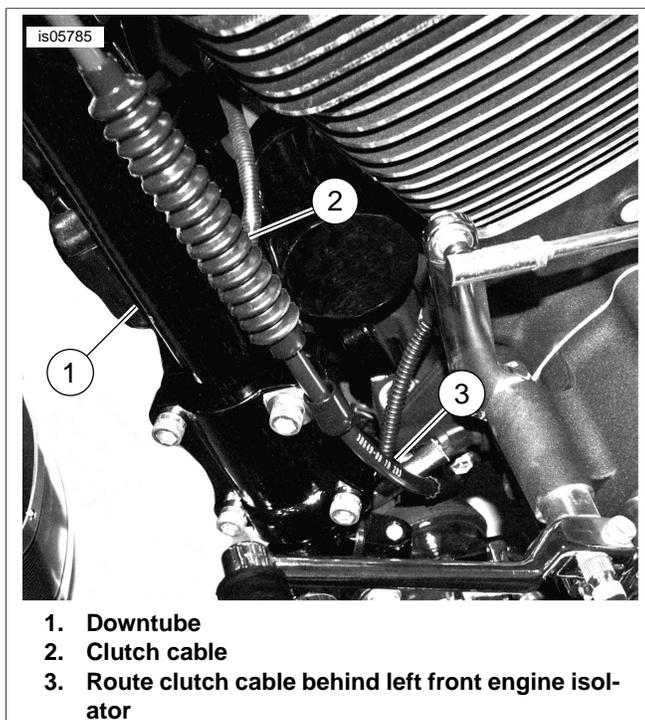
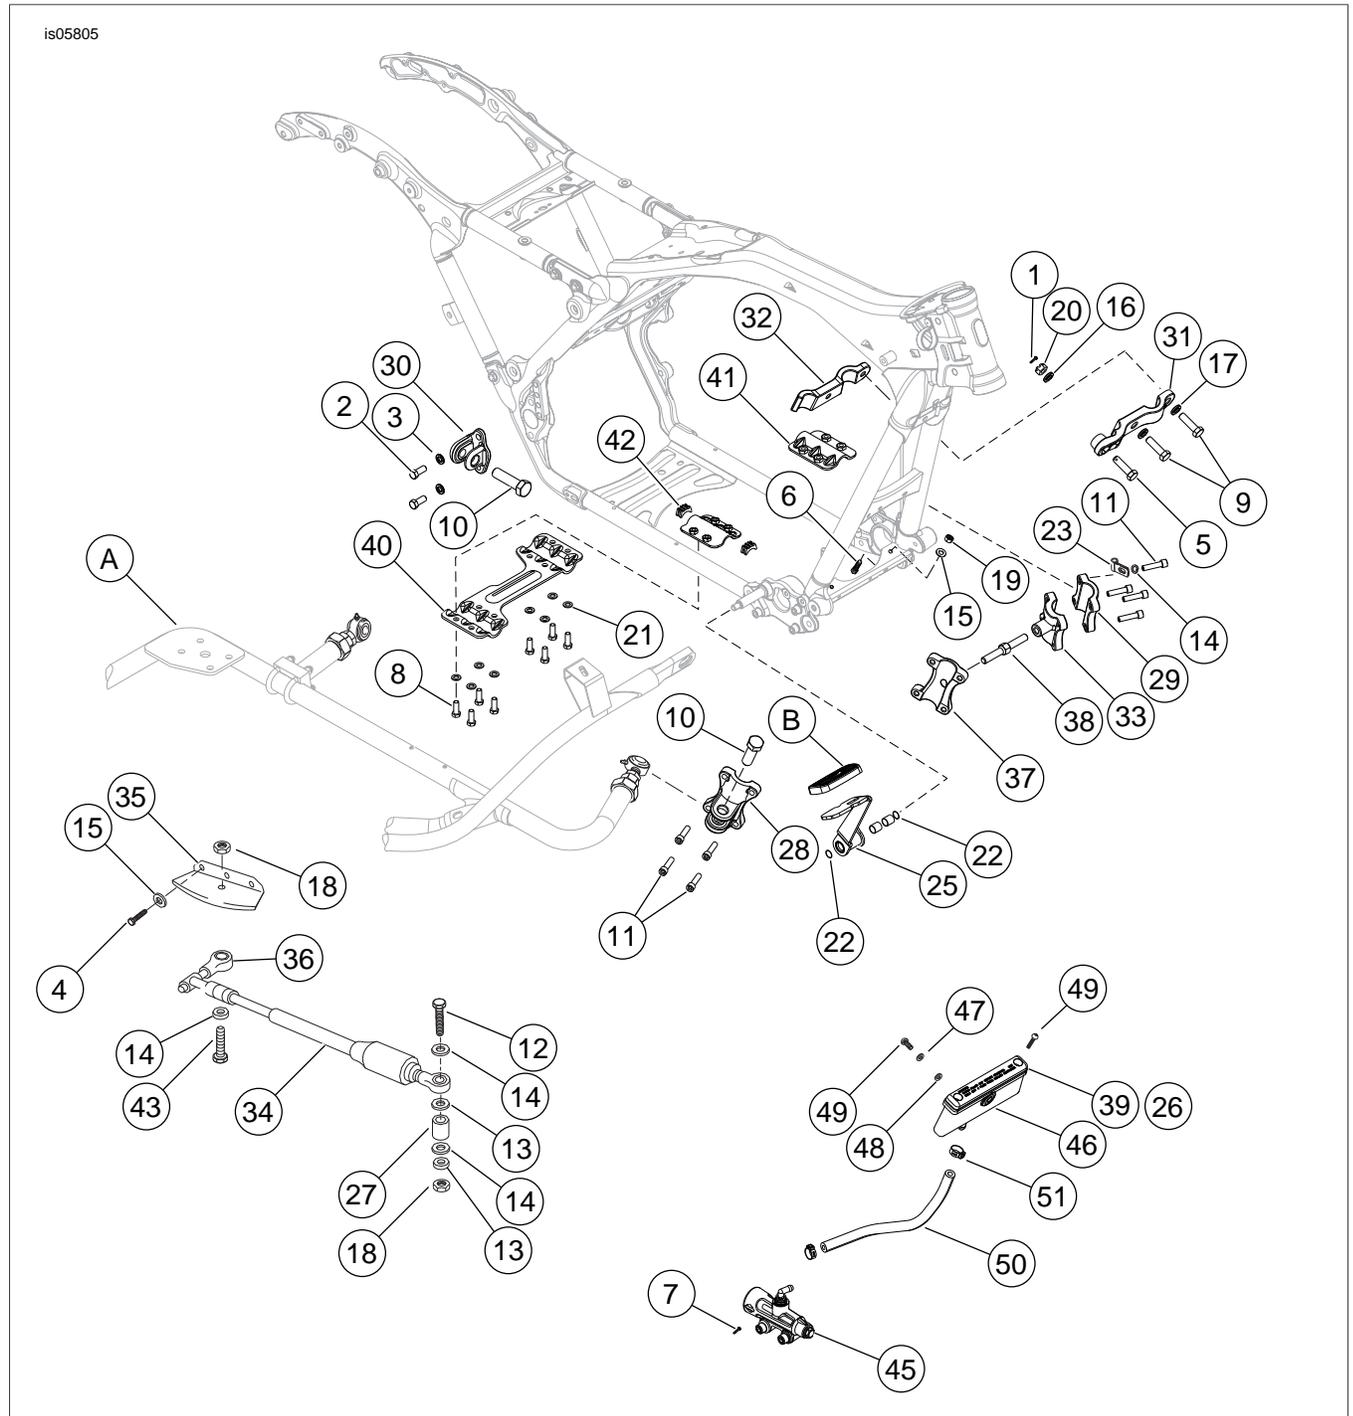

Figure 1. Route Clutch Cable
Figure 16. Service Parts: Sidecar Connection Kit
5. See Figure 1. Route clutch cable down along left frame downtube (1).
3. Position the right mounting bracket (6) on the right frame downtube opposite the right stabilizer (3) and insert four bolts (4) through mount and stabilizer. Finger-tighten bolts.
4. See Figure 16. Obtain the backing plate (29), four bolts (11) and flat washer (14). Install backing plate using four bolts, however use fourth bolt in upper right hand side with washer (14) and clamp (23) and secure clutch cable in place as shown (see Figure 1). Tighten bolts finger-tight.
5. Refer to the service manual and follow instructions to install voltage regulator using two hex head capscrews (6) (installed from below the frame), flat washers (15) and lock nuts (19).
1. See Figure 16. Obtain remote reservoir (46), two flat washers (48), two lock washers (47) and two socket head screws (49) from kit.
1. See Figure 16. Obtain the steering damper bracket (35), three screws (4) and three washers (15) from kit. Install the steering damper bracket to lower triple clamp. Tighten the screws to 96-120 in-lbs (10.8-13.6 Nm).
1. See Figure 16. Refer to the service manual. Install the sidecar master cylinder (45) and brake pedal assembly with stock bolts. Verify that the fitting on the sidecar master cylinder is rotated to point inboard. If it is not, gently rotate it inboard.
2. Install banjo bolt with seal washers (53) into master cylinder. Tighten the bolt to 13-15 ft-lbs (17-20 Nm).
3. See Figure 16. Install reservoir gasket (39), cover (26) and screws (49). Tighten the reservoir cover to 6-8 in-lbs (0.7-0.9 Nm).